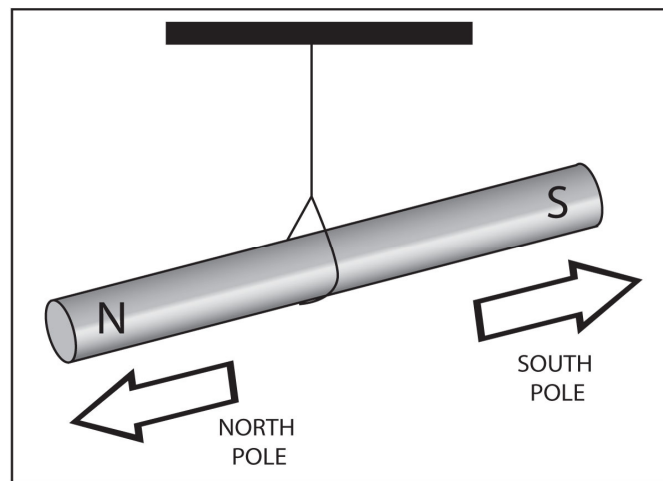
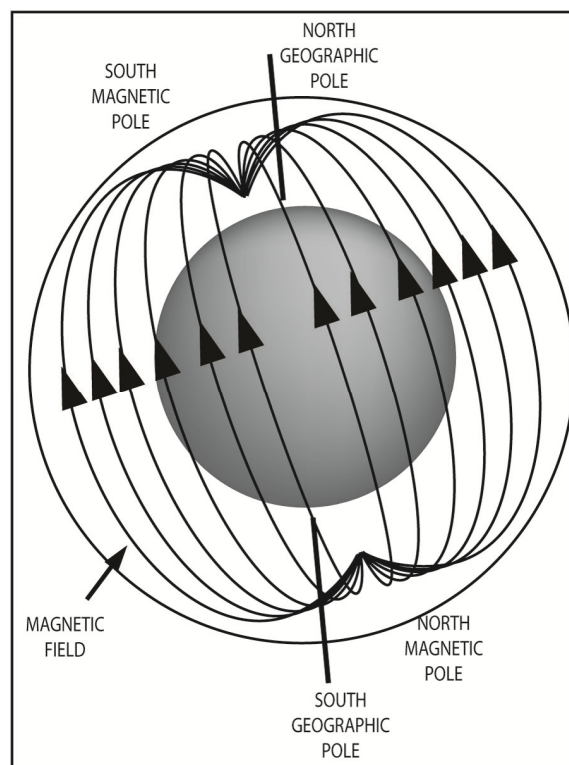

Fig. 6.1
Fig. 6.2
The two ends of a magnet have opposite characteristics. One end is called a south (S) pole while the other end is called a north (N) pole. One reason for choosing these names is that a bar magnet will align itself in a north-south direction if you allow it to hang freely. There's an example of this in Figure 6.1. The north (N) pole of the magnet is defined as the end which points towards the north pole of the Earth. This is shown in Figure 6.2